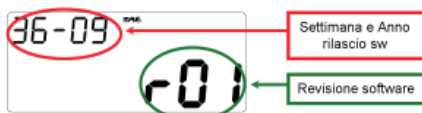

Fig. 17
- 1st page (at every connection with vehicle battery): Software version and date of issuing (for approx. 3 seconds) (fig. 17).
- Screens displayed as shown in fig. 17 for approx. 3 sec.